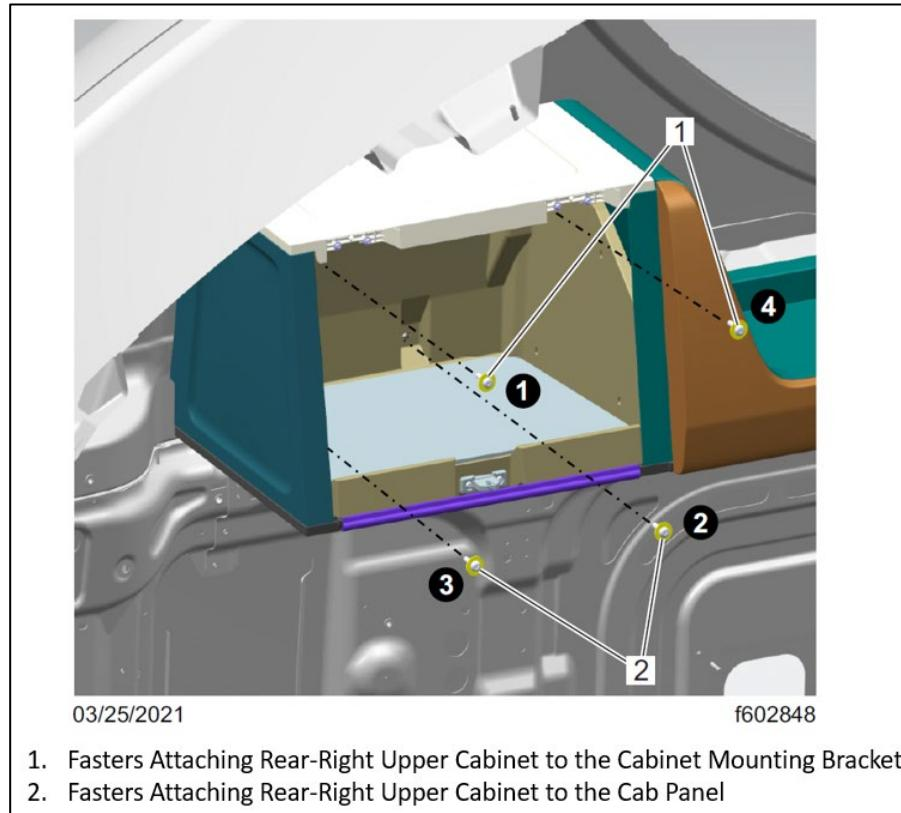

Fig. 70, Fasteners That Attach the Rear-Right Upper Cabinet to the Upper-Rear Shelf and the Cab Panel
15.2. Install the four fasteners that attach the rear-right upper cabinet to the cabinet mounting bracket and the cab panel. Tighten the fasteners 7 to 9 lbf.ft (9 to 12 N.m) as per the sequence shown in Fig. 70.